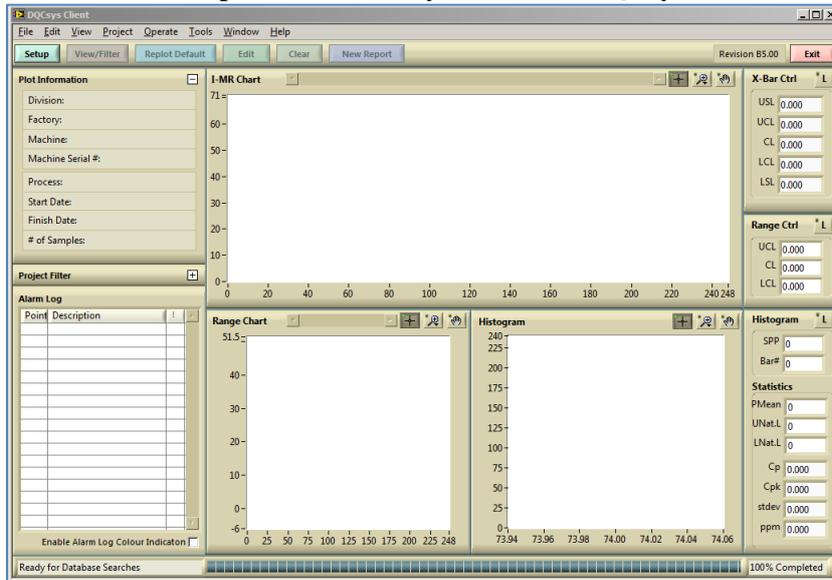
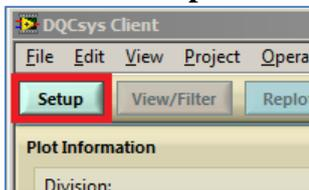

Figure 1-1: The DQCsys Client Window
Figure 1.1-1: The Setup Button
When DQCsys Client is launched, the user must first configure searches to obtain data. This data can then be plotted and analysed on the DQCsys **Client** window. (Figure 1-1)
1. Click the **Setup** button (Figure 1.1-1) on the DQCsys Client window (Figure 1-1).